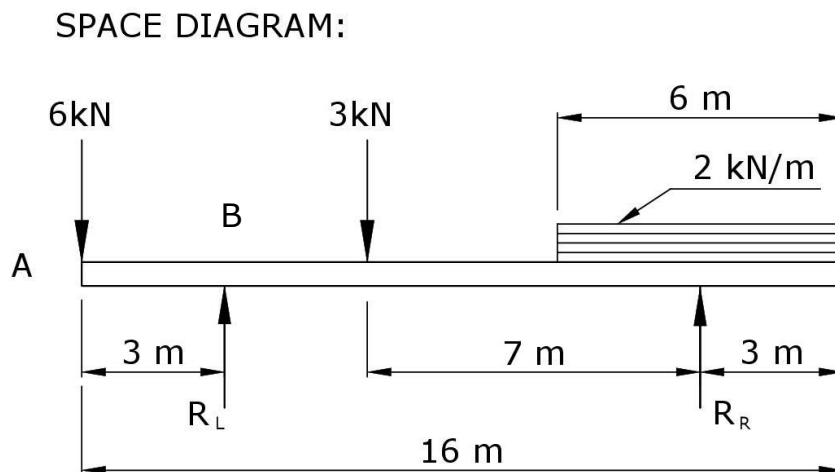

Figure 1
1. A loaded beam is simply supported at R^L and R^R with loads as shown in Figure 1.
- a) Using a linear scale of 10 mm representing 1 m, copy the diagram shown in Figure 1. A clear notation graphical system must be used to identify the loads acting along the beam. (2)
- b) Draw a vector diagram with a scale of 10 mm representing 1 kN and a polar diagram (polar distance of 120 mm). (4)
- c) Construct the bending moment diagram and indicate the 'closer line'. (3)
- i) the magnitude and direction of each of the support reactions at R^L and R^R , (4)
- ii) the magnitude of the bending moment along the beam at 3 m to the right of the reaction R^L . (3)
- e) Draw the shear force diagram. (4)